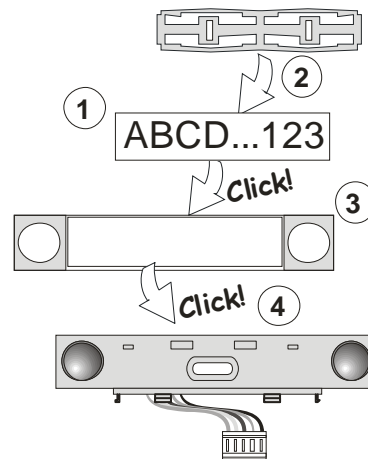

Figure 3: Insertion of a label into a control segment
- When batteries are inserted, the yellow backlit activation button (3) starts to light permanently which indicates that the module has not been enrolled to the system yet.
- Press the backlit activation button (3) – the module is thus enrolled and the yellow LED indicator goes off (this can take a few sec). An enrollment signal can also be sent by inserting the batteries.
- When you have completed installation, insert descriptive labels behind the segment transparent plastic cover and close them, see figure 3. Label printing is a part of the F-Link software (**Devices** window, at the RFID module position – **Internal settings**).